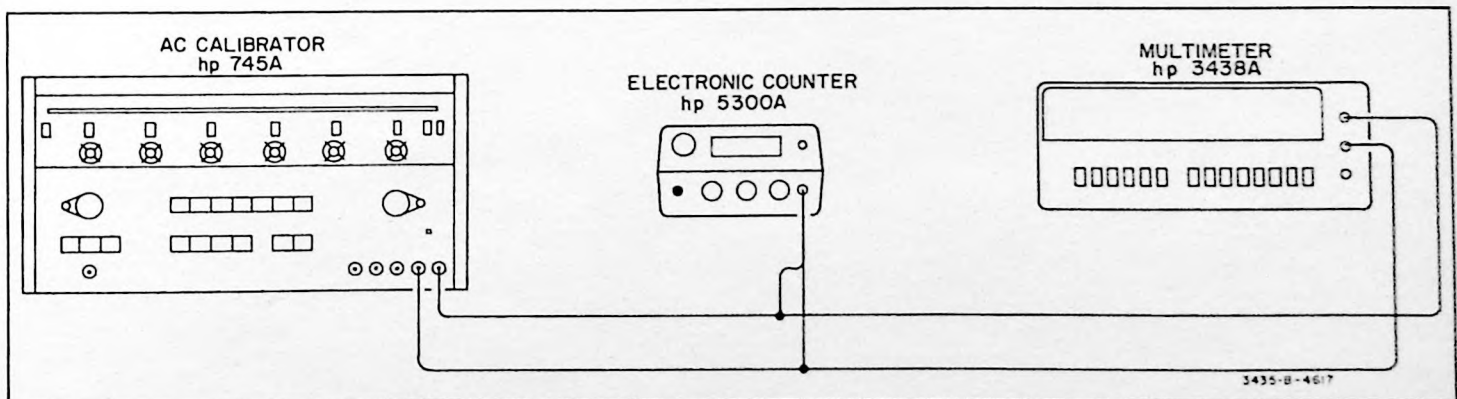

Figure 4-7. AC Normal-Mode Rejection Test.
a. Connect the test equipment as shown in Figure 4-7. Do not connect the Multimeter at this time.